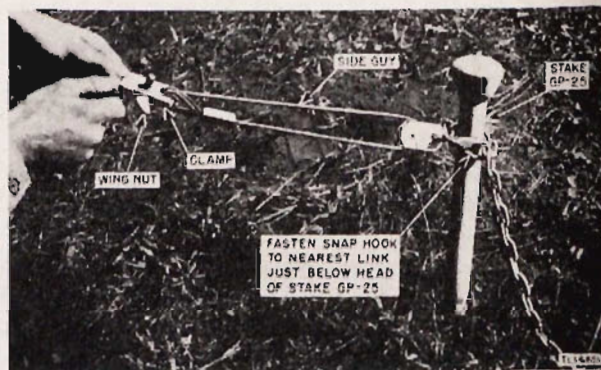

Figure 35. Adjusting length of guy.
i. Make certain the mast is lying exactly in line with the mast base and gin pole. Adjust the length of the two side guys by means of the clamp until there is only a little slack (fig. 35).